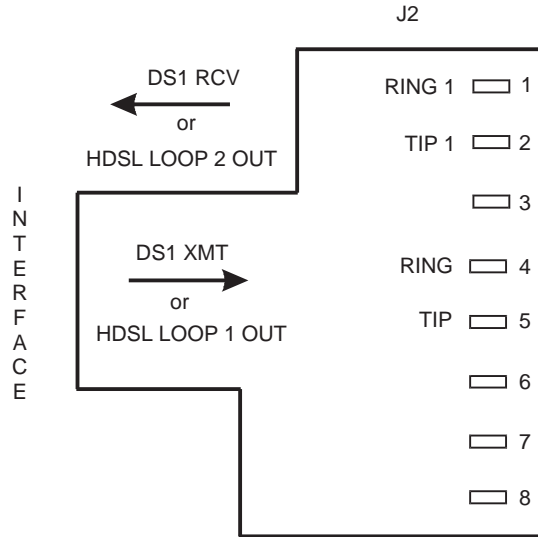

Figure 10. List 1, RJ-48C Pin Assignments
The HRU's DS1 CPE interface ports may also be connected to either the RJ-48C, see Figure 10, or the RJ-48X jack (J2), see Figure 11, located on the rear panel of the HRE-420, or directly to TB1. If TB1 is used, connect the DS1 output from the CPE (XMT) to TB1-9 (T) and TB1-10 (R). Connect the DS1 input to the CPE (RCV) to TB1-7 (T1) and TB1-8 (R1). Note if TB1 is used for the CPE access when using the List 2 HRE-420, the shorted pins in the RJ-48X jack J2 must be opened. This is accomplished by inserting a dummy RJ-48 plug into J2.